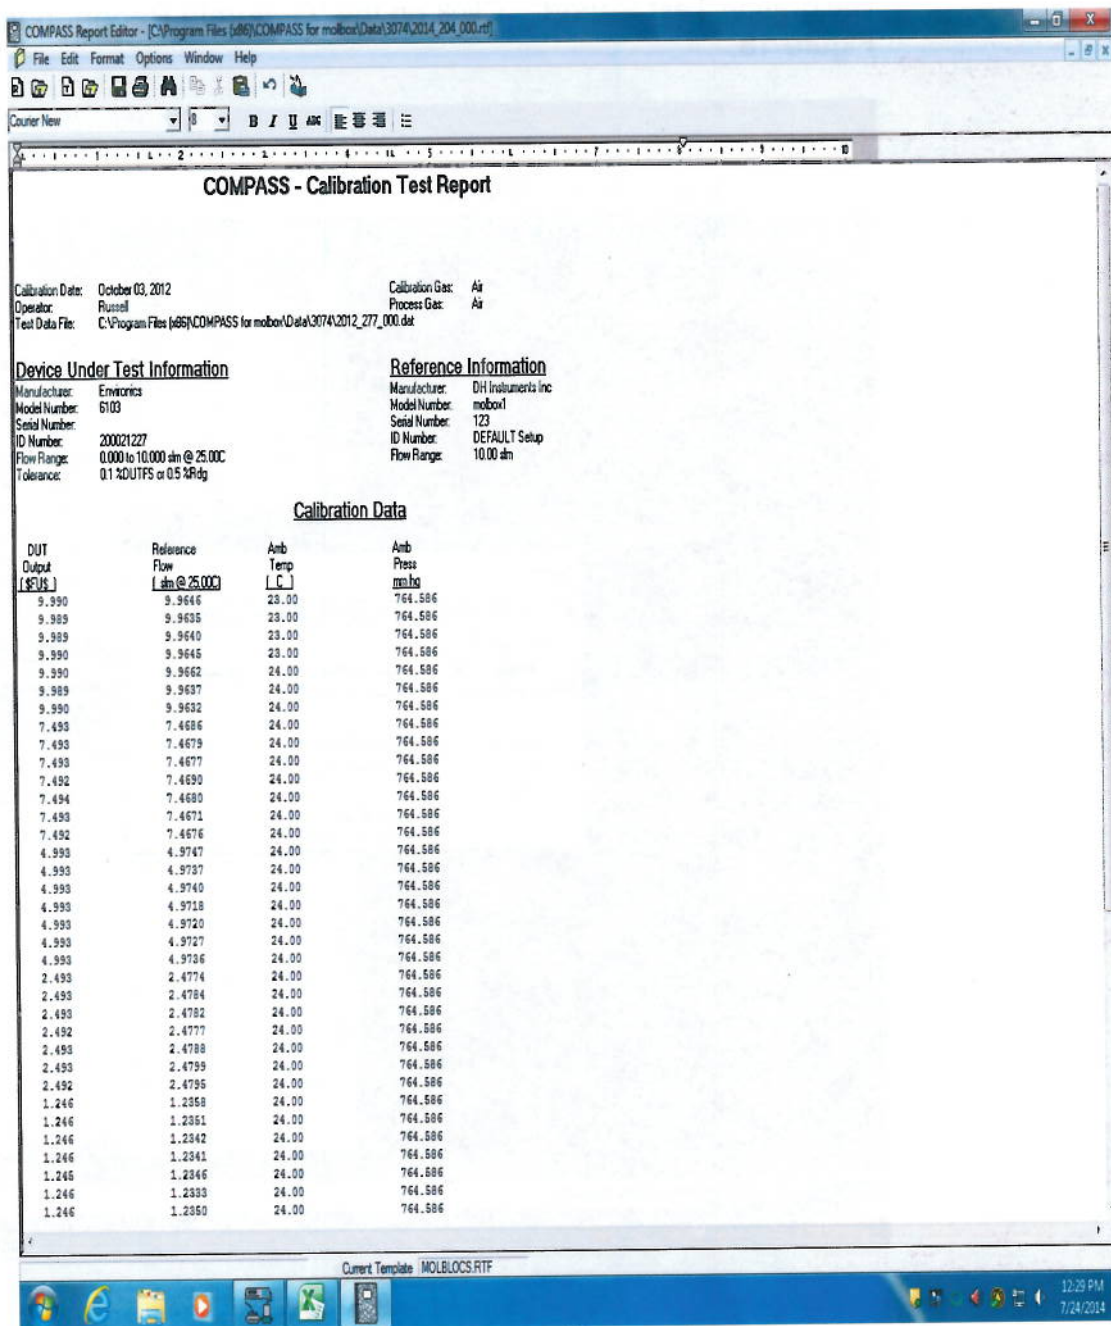

Figure 19
12.3.20 Save and print the "COMPASS – Calibration Test Report". See Figure 19.